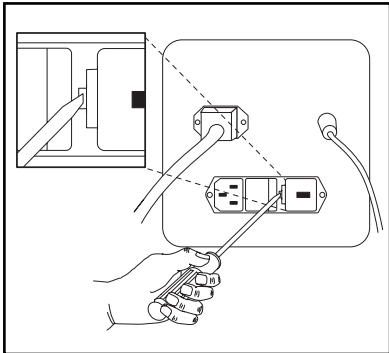

Figure 9.33
2. Using a flat blade screwdriver or equivalent, unlock the Fuse Drawer and pull straight out to remove from the Power Module. (Figure 9.33)